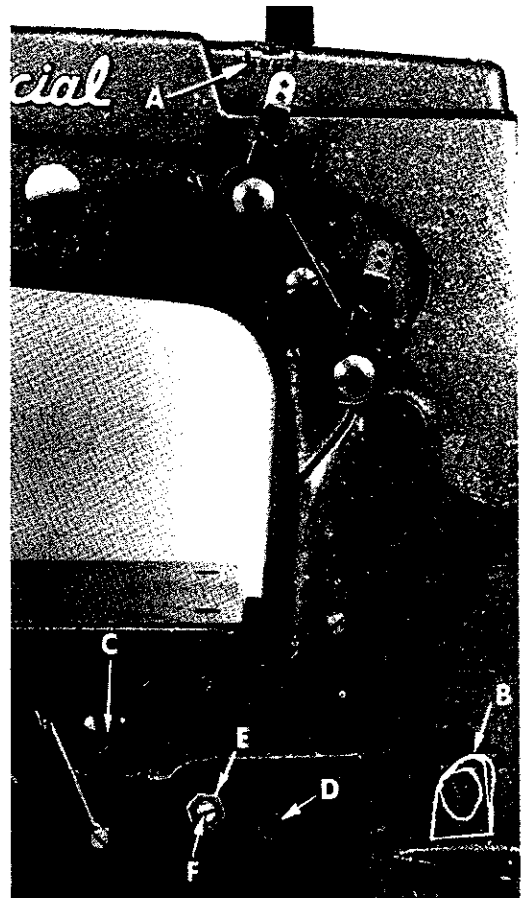

Fig. 2
Before operating, fill machine with oil at plug screw (A, Fig. 2). While filling machine with oil, check gauge (B). When proper oil level is reached, the oil level should appear in the center between the two lines on gauge (B). It is recommended to always check oil level before operating to be sure machine is filled between the lines. **CAUTION: DO NOT** over fill machine.
- Remove plug screw (C, Fig. 2) and tip machine forward to drain all oil from reservoir.
- Fill reservoir until oil is even with bottom of knee press shaft bushing (D).
- Loosen locknut (E) and rotate calibrating screw (F) as required until gauge needle registers on the black line marked "LOW".
- Tighten locknut (E), then replace plug screw (C) and lower crank chamber cover.